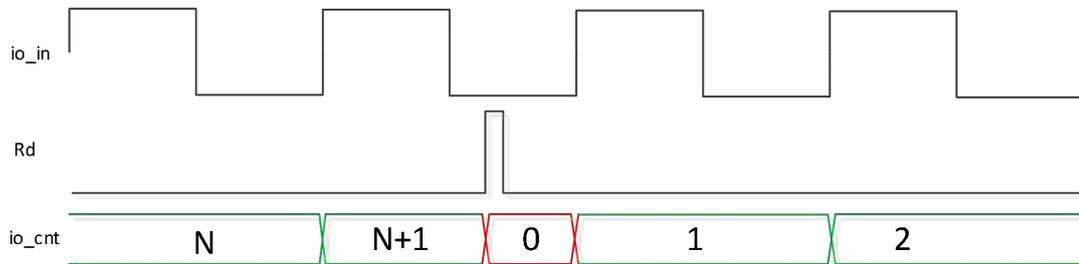
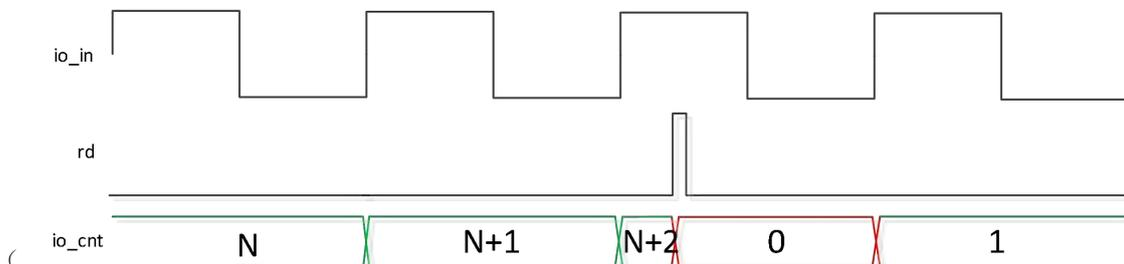

Figure 9 Zero operation before io edge(rising edge counting)...
Figure 10 Zero operation after io edge (rising edge counting)
- When a read operation arrives before or after an input signal edge change, the current sub-edge accumulates to the next io\_cnt, as shown in Figure 9, Figure 10.